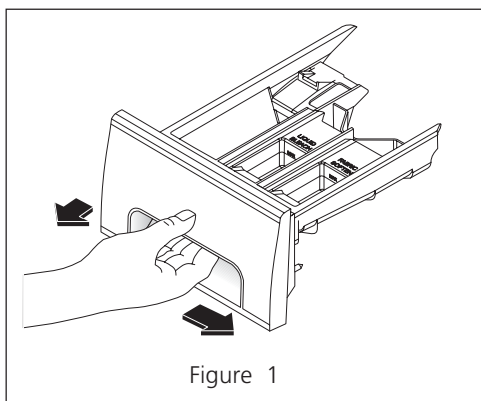

Figure 1
- Remove the drawer by first sliding the safety latch to the right, then pulling the drawer out until it stops. (Figure 1)
- This is a result of the siphoning action and is part of the normal operation of the washer. Water may be removed by removing the dispenser drawer (see Page 11, Figures 1 and 2) and draining water into the empty drum or sink.